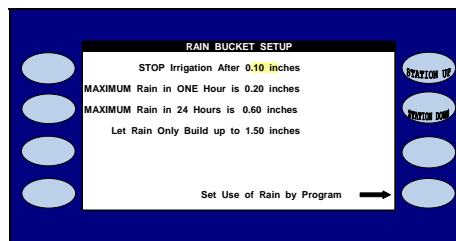

Figure 5.10
The RAIN BUCKET SETUP screen is displayed (Figure 5.10).
- **Stop irrigation after:** This setting determines how much rain must fall, before the controller will start accumulating rainfall values in the rain table. It also determines when to halt any on going irrigation. In figure 5.10, **(0.10)** inches of rain will have to fall before any rain data starts to accumulate in the rain table, or irrigation is stopped.
- **Maximum Hourly Rain:** This setting determines the maximum amount of rain that will be put in the rain table after a period of one (1) hour of rain. In figure 5.10, a maximum of **(0.20)** inches of rain will be put into the rain table, no matter how much rain falls in a one (1) hour period. The
- **Maximum 24 Hour Total:** This setting determines the maximum amount of rain that will be put into the rain table in a 24 hour period. In figure 5.10, a maximum of **(0.60)** inches of rain will be put into the table, no matter how much rain falls in a 24 hour period. The amount of rain from this setting put into the rain table, will increase only until it reaches the LET RAIN ONLY BUILD UP TO :setting.
- **Let Rain Only Build Up to:** This setting determines the maximum amount of rain that will be stored in the rain table. In figure 5.10, the controller will stop storing rain data in the rain table if the Maximum 24 Hour Total reaches **1.50** inches of rain.
From the RAIN BUCKET SETUP screen (Figure 5.10):